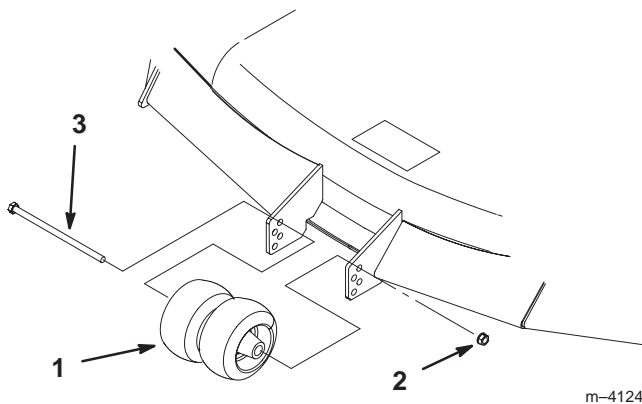

Figure 21
- After adjusting the height-of-cut, remove the bolt and nut (Fig. 21).
- Select a hole so that the gage wheel is positioned to the nearest corresponding height-of-cut desired (Fig. 21).
- Reinstall the bolt, center rollers, and nut (Fig. 21).